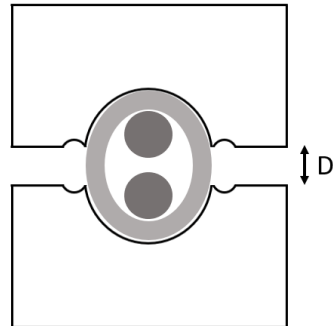

Figure 6
1. **stage:** Press the loop/thimble side up to the rope diameter - the jaws remain open at least up to the rope diameter (see Fig. 6). Carry out this process over the entire length of the ferrule, whereby the crimped segments must always overlap by at least 2 mm. If the ferrule no longer fits well between the jaws during the next adjacent crimping step, tap on the side of the ferrule with a hammer until it fits back into the crimping tool. Before each crimping process, check that the ferrule is correctly positioned between the jaws.